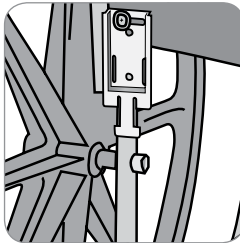

Fig. 26a
- Use a screwdriver to secure bracket to chair (fig. 26a).